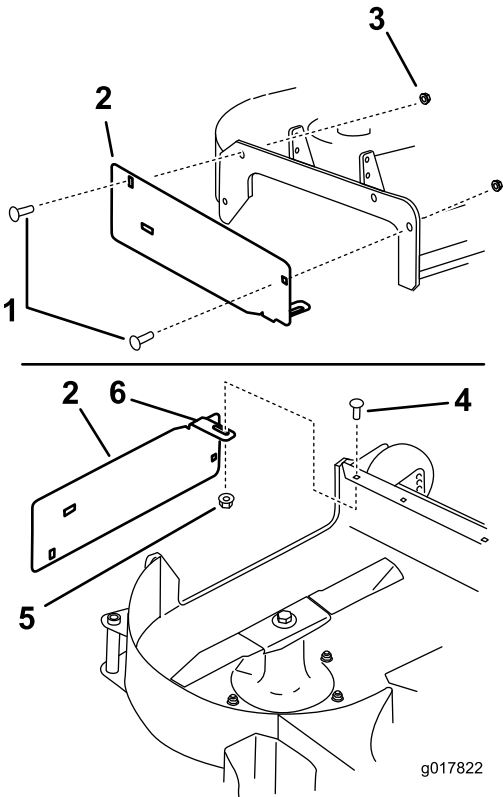

Figure 4
1. Install the discharge plate to the outside of the mounting bracket with 2 carriage bolts (3/8 x 1-1/4 inches) and 2 flange nuts (small flange) (3/8 inch) as shown in Figure 4.
2. Install the tab to the inside of the mower deck with 1 carriage bolt (5/16 x 7/8 inch) and 1 flange nut (5/16 inch) as shown in Figure 4.